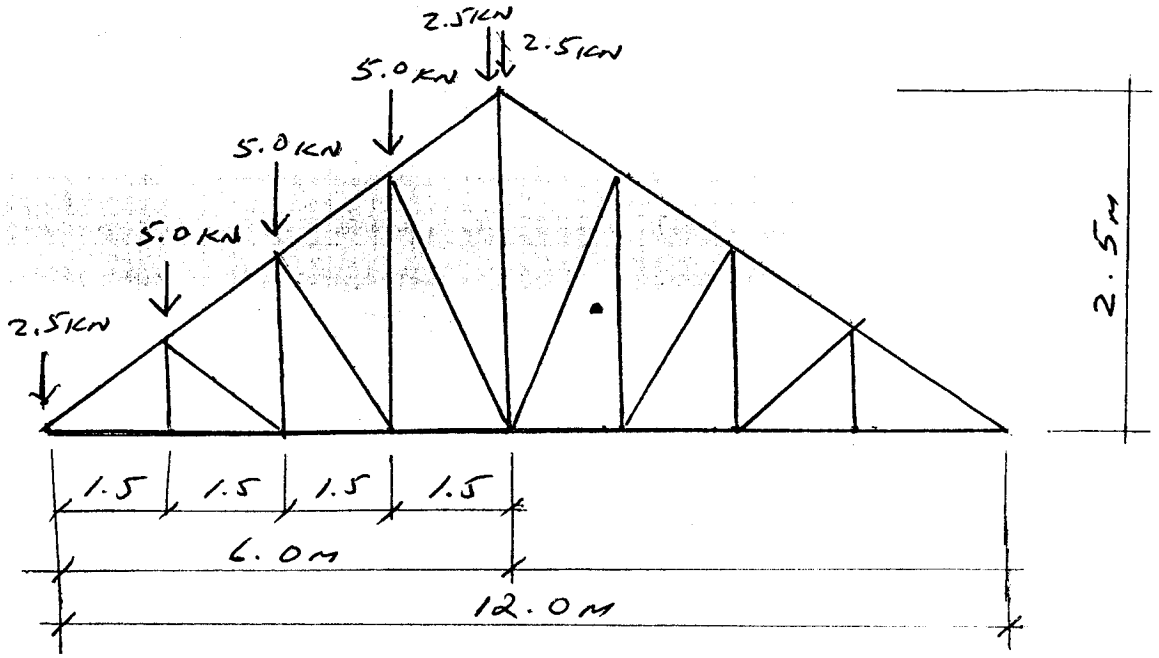

FIG. 1.0
1. Design the rafter (top chord) and bottom chord of the truss shown in Fig 1.0 with the following data: